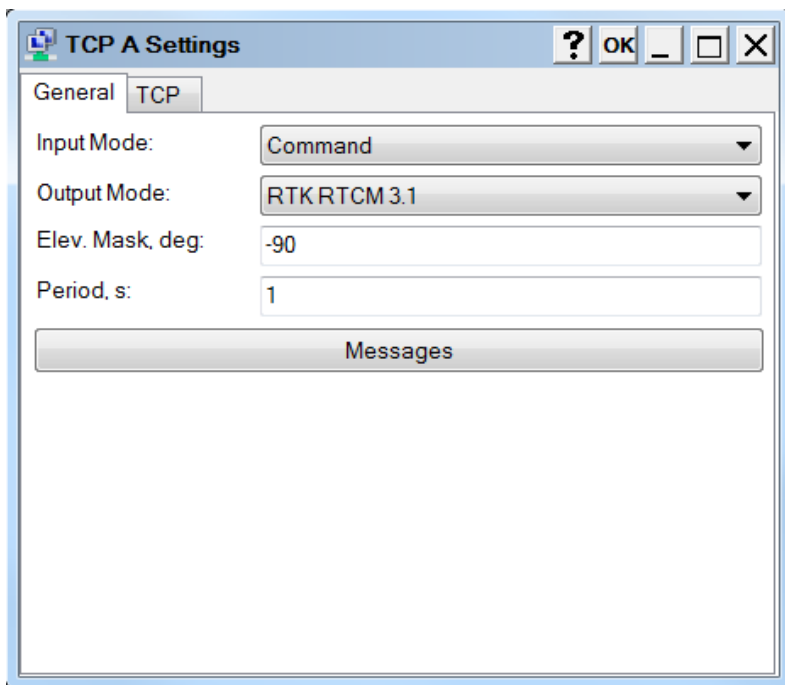

Figure 36: TRU – TCP Port Settings
4. In the **Settings** screen, select the following (Figure 36):